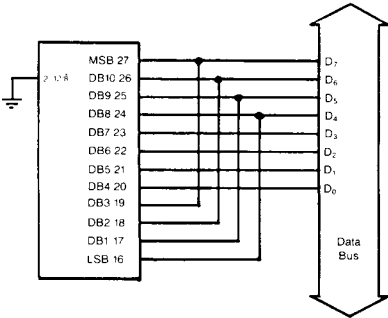

Figure 4. Connection to 8-Bit Bus
**HARD-WIRING TO 8-BIT DATA BUSES** — For applications with 8-bit data buses, output lines DB4 to DB11 (Pins 20 to 27) should connect directly to lines D0 to D7 in the system data bus. In addition, output lines DB0 to DB3 (Pins 16 to 19) should connect to lines D4 to D7 on the system data bus, and to ADS574 output lines DB8 to DB11 (Pins 24 to 27). Figure 4 shows the proper connections. Thus connected, if A0 is low during a read operation, the upper 8 bits are enabled and become valid on output pins 20 to 27. When A0 is high during an operation, the 4 LSBs are enabled on output pins 16 to 19 and the 4 middle bits (Pins 20 to 23) are overridden with zeros.